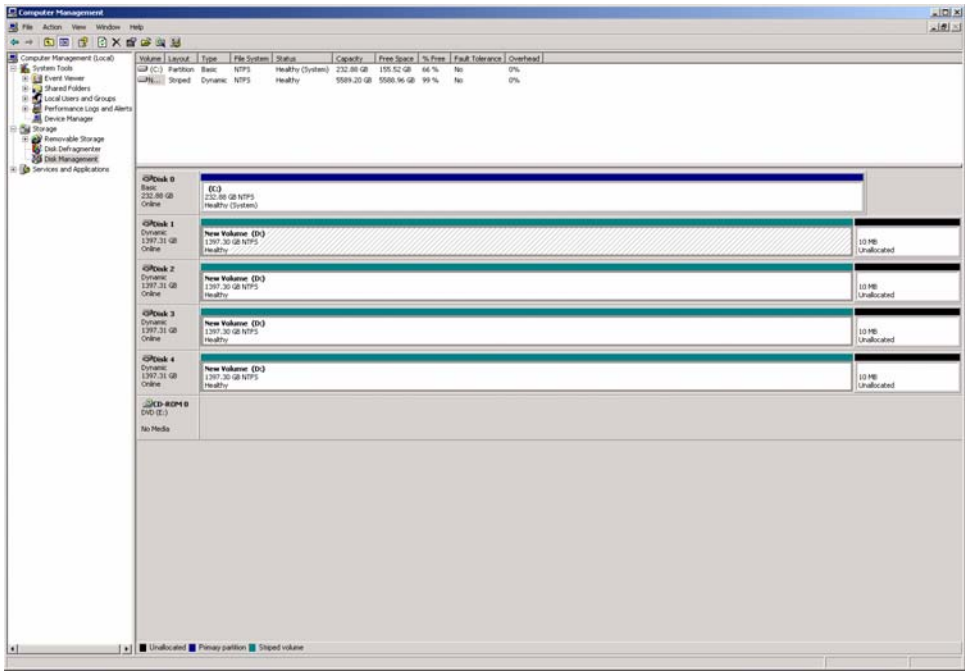

FIGURE 6-40. Computer Management Screen, Showing the Volume Name.
18. The *Computer Management* screen appears. Click **DISK MANAGEMENT** at the left side. The volume name, file system, and allocation unit size appear. See Figure 6-40.